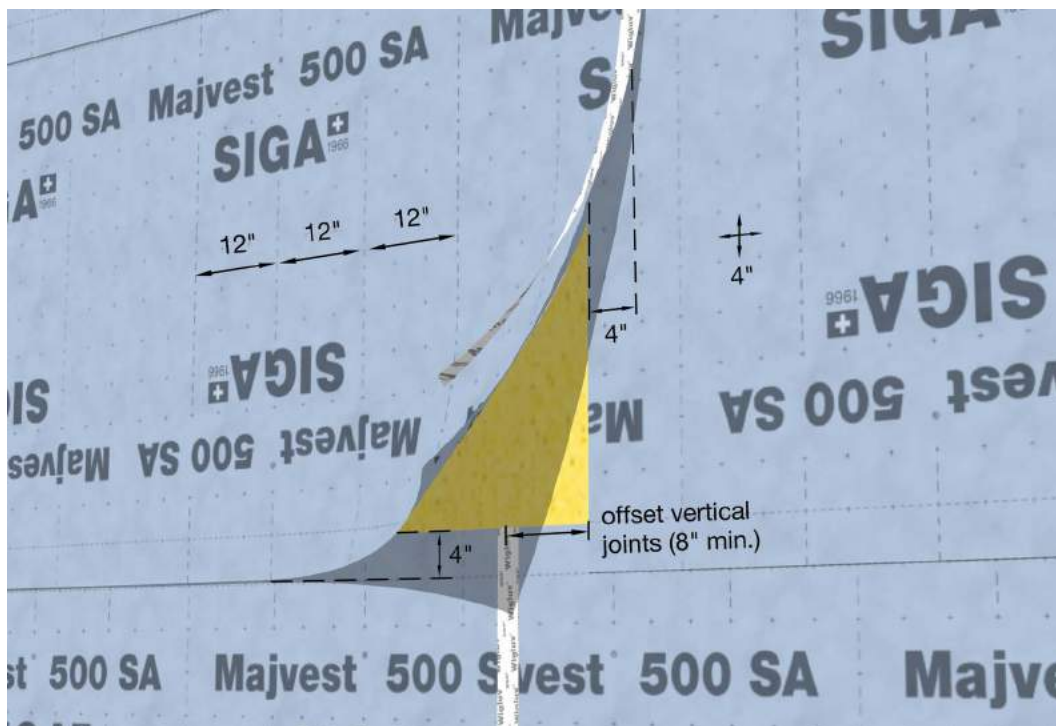

Figure 2
- minimum vertical and horizontal overlap is 4" (see Figure 2)
- use the factory printed grid (every 4") and perpendicular dashed lines (every 12") to simplify measuring (see Figure 2)